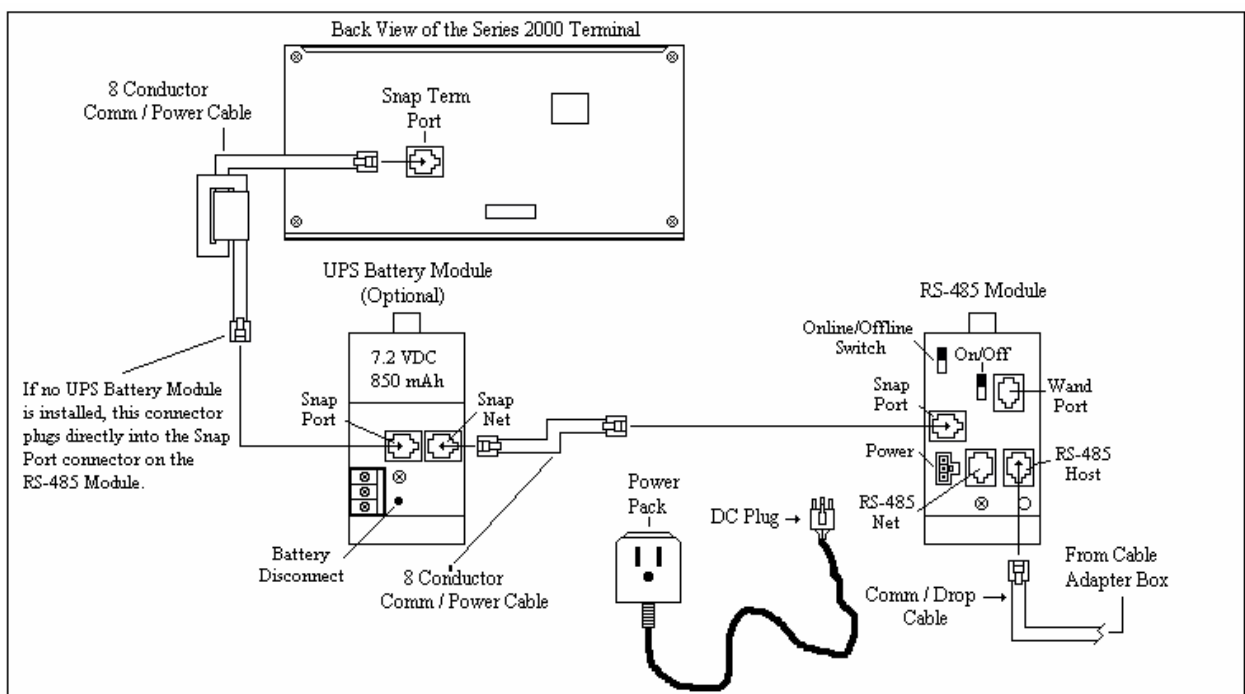

Figure 1
2. Find the On / Off switch on the RS-485 Module and move it to the “Off” position (Figure 1).
3. If an optional UPS Battery Module was installed, press the Battery Disconnect button to power down the Terminal (Figure 1).
4. Unplug the Terminal’s Comm / Power cable from the Snap Port connector on the RS-485 Module or optional UPS Battery Module (Figure 1). If an UPS Battery Module is installed, also unplug the Comm / Power cable from the Snap Port connector on the RS-485 Module (Figure 1).
5. Unplug the Comm / Drop cable from the RS-485 Host connector on the RS-485 Module (Figure 1).
6. Unplug the DC Plug from the Power Pack from the Power connector on the RS-485 Module (Figure 1).
7. Unplug any cables from both the Wand Port and / or RS-485 Net connectors on the RS-485 Module (Figure 1).
9. Plug the DC Plug from the Power Pack into the Power connector on the RS-485 Module (Figure 1).
10. Plug the Comm / Drop cable into the RS-485 Host connector on the RS-485 Module (Figure 1).
11. Plug any cables for the Wand Port and / or RS-485 Net connectors back into the RS-485 Module (Figure 1).
12. Plug the Terminal’s Comm / Power cable into the Snap Port connector on the RS-485 Module or into the Snap Port connector on the UPS Battery Module (Figure 1). If an UPS Battery Module is installed, also plug the Comm / Power cable from the UPS Battery Module to the Snap Port connector on the RS-485 Module (Figure 1).
13. Find the Online / Offline switch on the RS-485 Module and make sure it is in the “Online” position (Figure 1).
14. Find the On / Off switch on the RS-485 Module and move it to the “On” position (Figure 1).